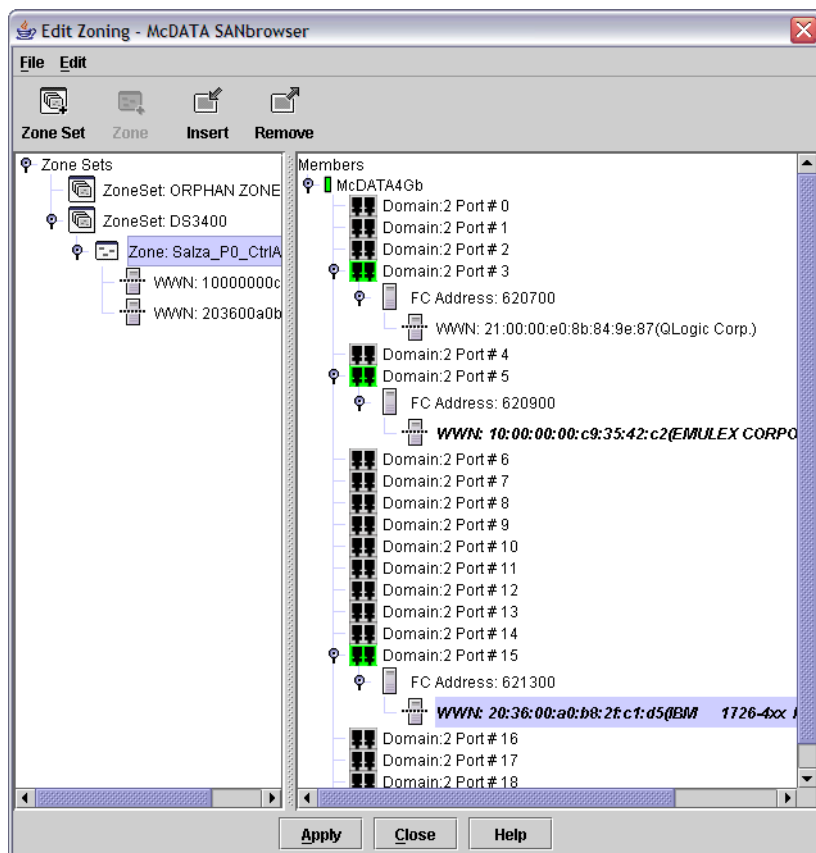

Figure 24-9 Members added to zone
- After adding the zone members, the view should look similar to Figure 24-9.